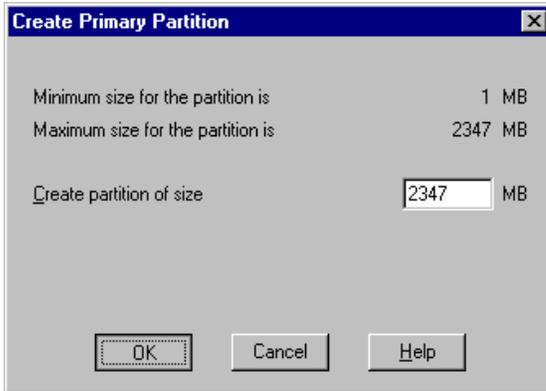

Figure 3.4 Entering the Partition Size
2. On the Create Primary Partition panel, enter the desired partition size (see Figure 3.4), and select **OK**. If the specified partition size is greater than 1024 MB, the Disk Administrator will request confirmation to create the partition.
3. The Disk Administrator panel now shows the new unformatted partition for the selected device. Make sure that the correct partition size is displayed. If the partition size is not correct, repeat steps (1) through (4) to re-enter the correct partition size.